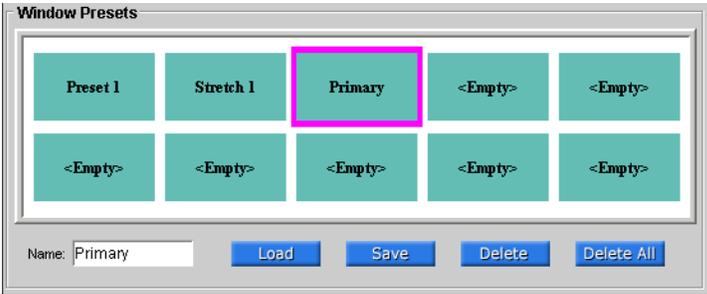

Figure 4-12. Window Preset Section
*DualView XL* has a total of ten window preset registers. Access to these registers is provided by the ten preset buttons located below the virtual screen (Figure 4-12). Positioning the cursor over any of these buttons and clicking once will select that button. The selected button is highlighted by a blue border.